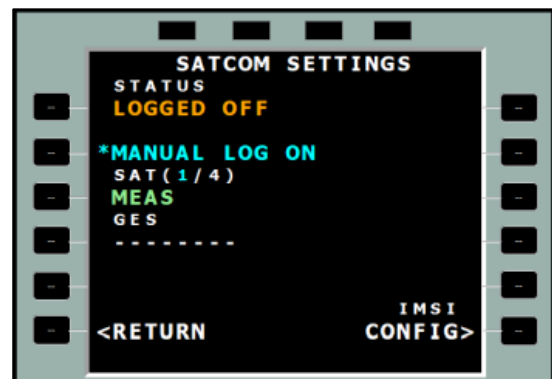

Figure 6-2: MCDU - SATCOM Settings - Manual Log On
- b. Pressing MANUAL LOG ON from the SATCOM SETTINGS page (Figure 6-2).